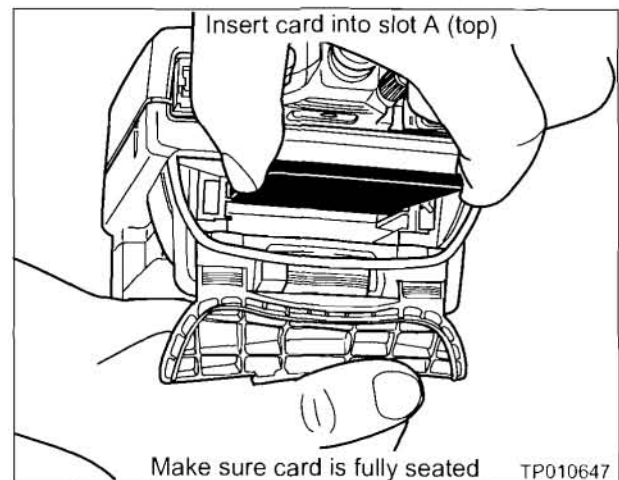

Figure A2
- Use slot A—top slot (see Figure A2).